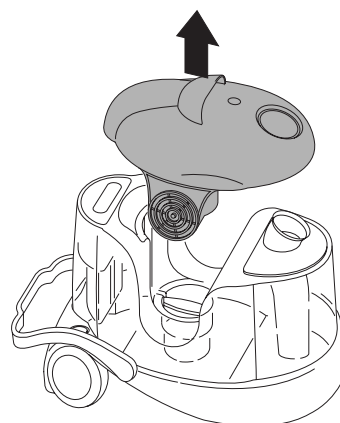

fig. 2
- Remove the motor head **C** (Fig. 2).